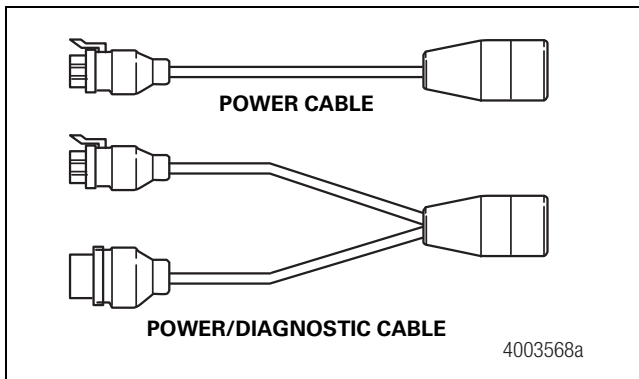

Figure 10
1. Identify the type of cable to be installed. Figure 10.